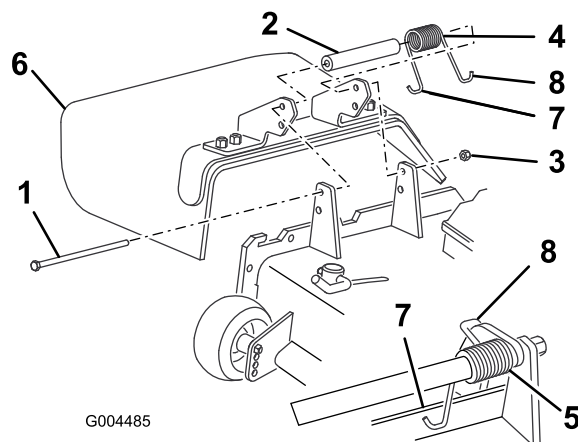

Figure 80
2. Remove the locknut, bolt, spring and spacer holding the deflector to the pivot brackets (Figure 80). Remove damaged or worn grass deflector.
3. Place the spacer and spring between the replacement grass deflector brackets (Figure 80). Place the left hand J hook end of the spring behind the deck edge.
Note: Make sure the left hand J hook end of the spring is installed behind the deck edge before installing the bolt as shown in Figure 80.
4. Install the bolt and nut. Place the right hand J hook end of the spring around the grass deflector (Figure 80).